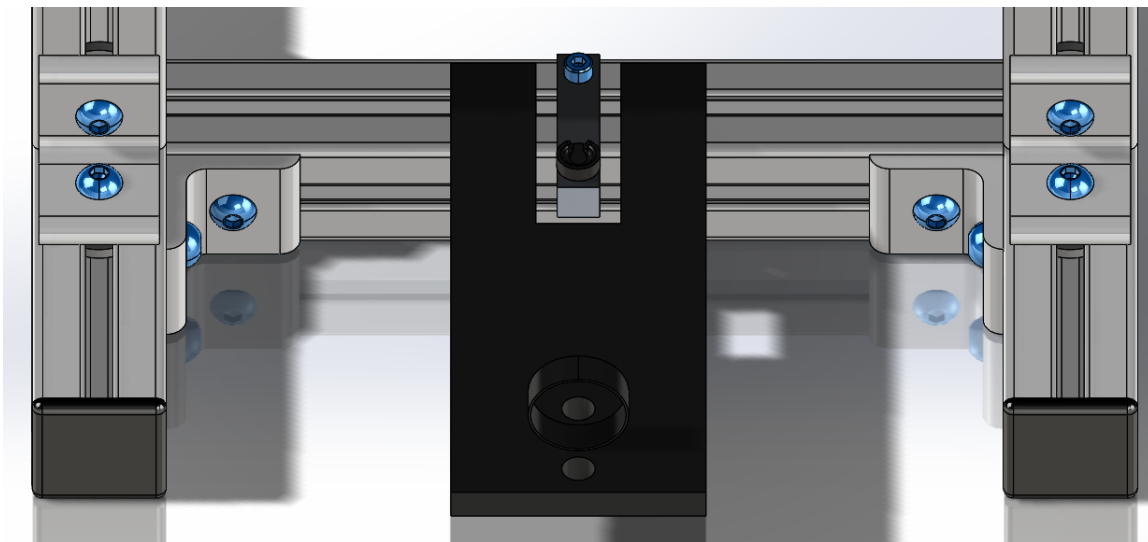

Figure 27. Location of mouse platform
a) The Platform (3h) will support the mouse during injury and will house the anesthesia interface. The Platform should extend out on the same side as the 90° Elbows holding the H-shaped base together (Figure 27).